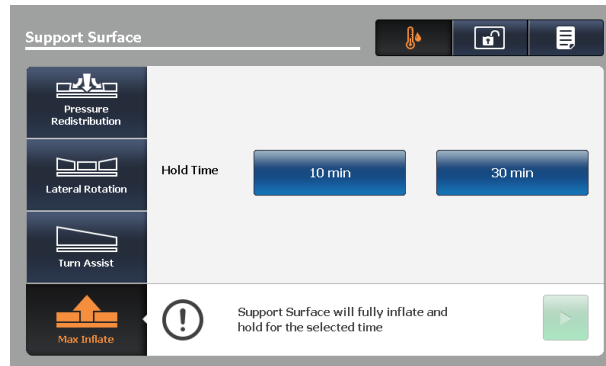

Figure 62: Max inflate screen
1. Tap **Max Inflate** (Figure 62 on page 64).